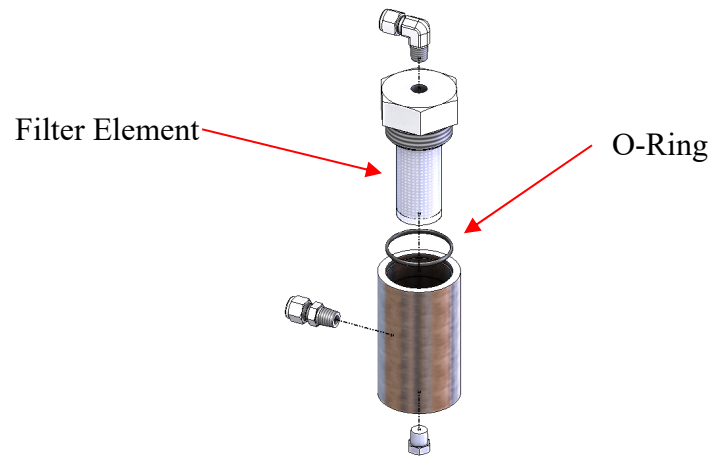

Figure 40: Auxiliary Filter Exploded Assembly
- e) Remove the o-ring on the cap that is located just above the threads. The filter element should be connected to the cap. See Figure 40.